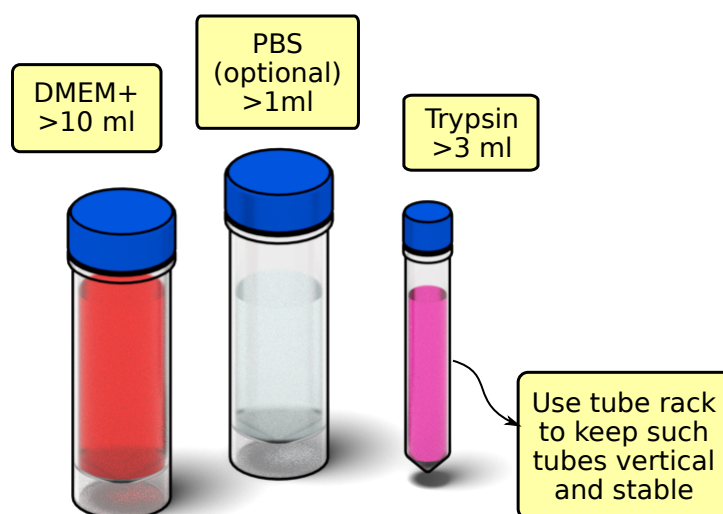

Fig. 4.3. Solutions required to transfer cells
- 1.2. Check if all aliquotes are available (see. table 4.1 and fig. 4.3). Preheat it in a thermostat for at least 20 min.